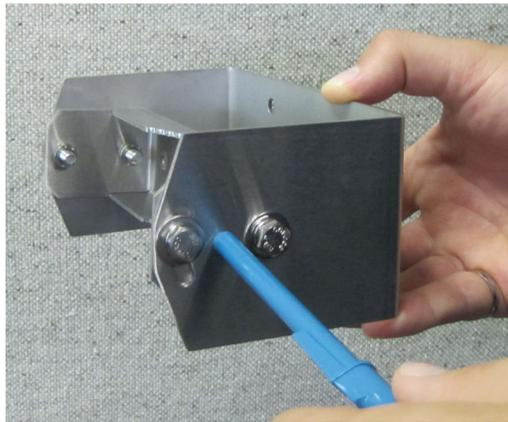

Figure 15 UltraWave mounting with a 5° angle
7. For UltraWave units that are separated by 50 m or less, use the alignment holes and adjust the pitch of both units to a 5° angle toward the ground (see Figure 15).